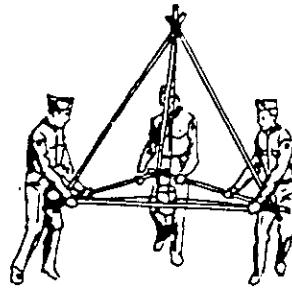

Figure 420 Nitroglycerine Transporter
- The group should move the transporter over a prescribed distance. If the nut touches the side of the can at any time, the group must return to the starting line and carry it across the area again. See Figure 420.